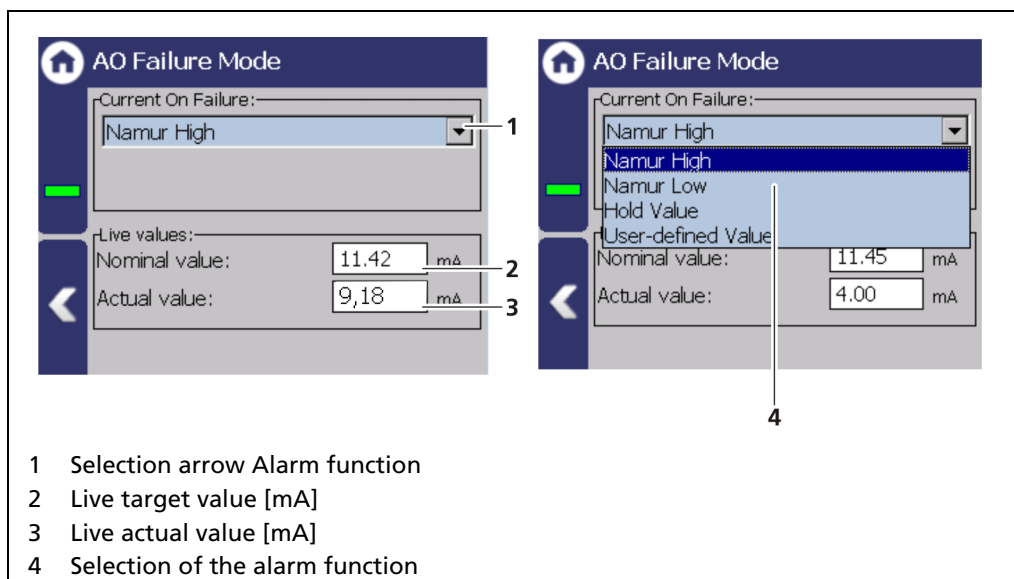

Fig. 88 Analog Output (AO Failure Mode)
If "AO Monitoring" is activated (Fig. 88, item 1), the current output will be monitored. It is continuously monitored whether the current value flowing in the current loop is correct.